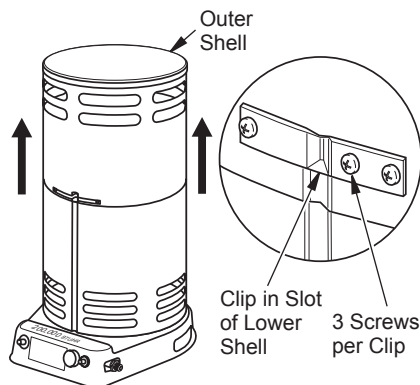

Figure 2 - Lifting Outer Shell
1. Care must be taken to protect hands during this step. Lift outer shell straight up as shown in Figure 2, until all three clips engage slots in lower shell. Screw holes will line up at this point.
2. Lock clips into place with 3 screws as shown in Figure 2. The heater must not be operated unless the outer shell is properly extended and fully locked into place.